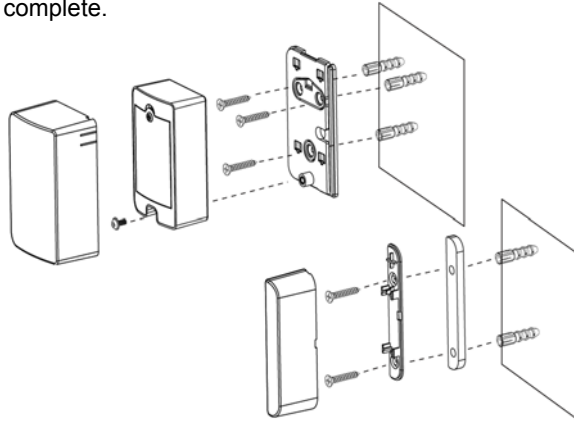

FIG. 3
- 2) Use the mounting bracket as a template to drill holes on the wall for plugs. (**FIG. 3**)